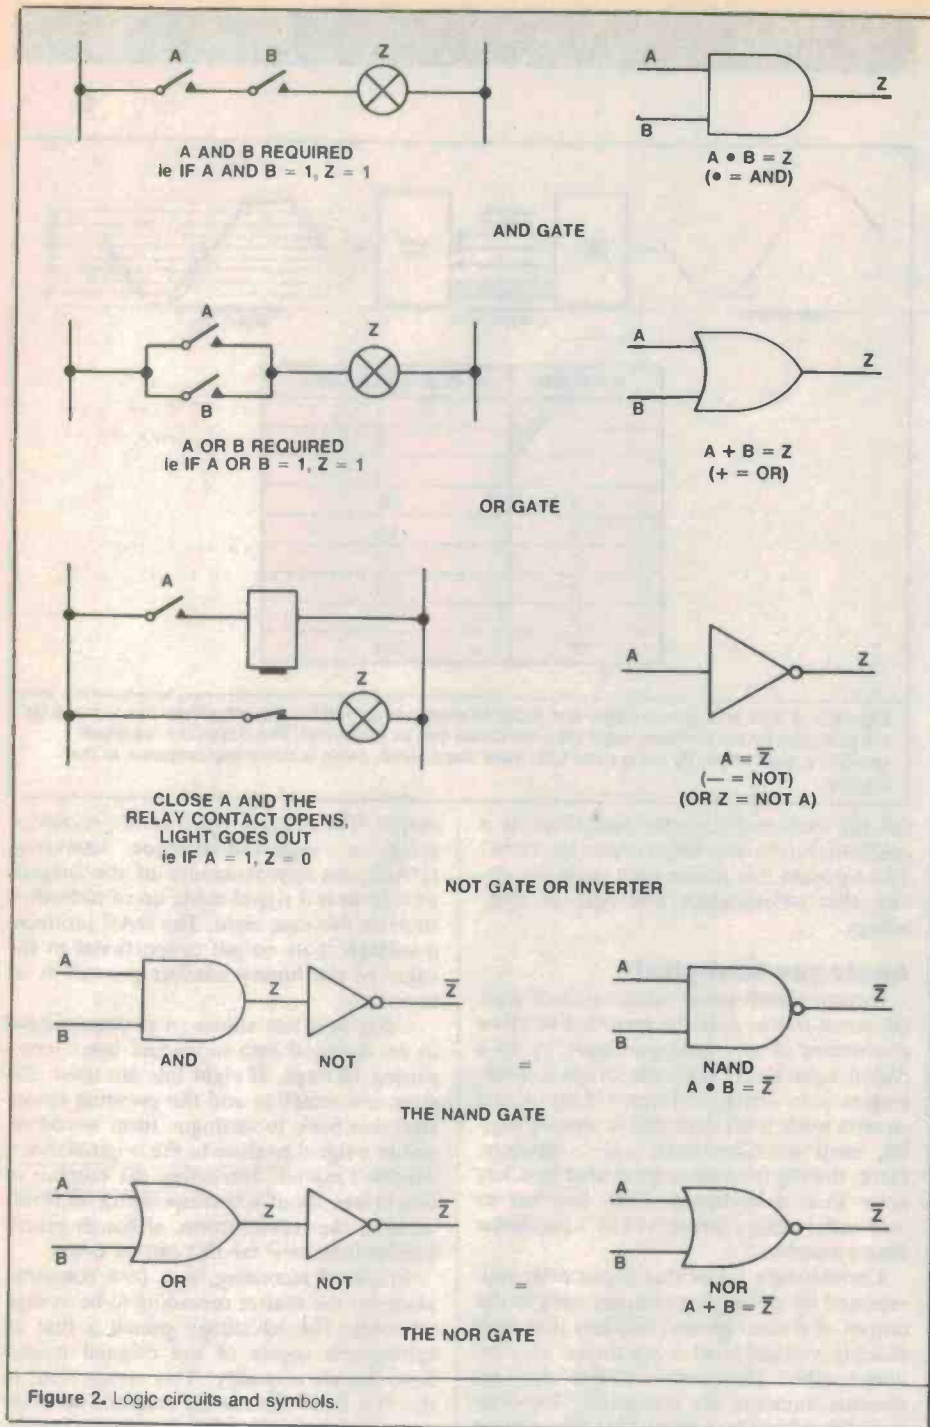

Figure 2. Logic circuits and symbols.
energised, with contacts controlling the light to open when the relay operates. By placing the switch to operate the relay coil, a light can be turned off if a switch is turned on. This is called, in digital logic terms, the NOT function. In other words, if the switch is a logic 1 the light turns off. That is, input a 1, and the output becomes a logic 0. Figure 2 shows the circuits referred to. Closing a switch (either A or B) is analogous to applying a logic 1, and causing the light (Z) to illuminate symbolises an output of logic 1.
Figure 2 also introduces three logic circuit symbols, as well as some Boolean algebra. Alongside each switching circuit is the digital 'gate' symbol that the circuit represents, beneath which is the Boolean expression for that gate. A lot can be learned by studying these three examples, and understanding each gate function.